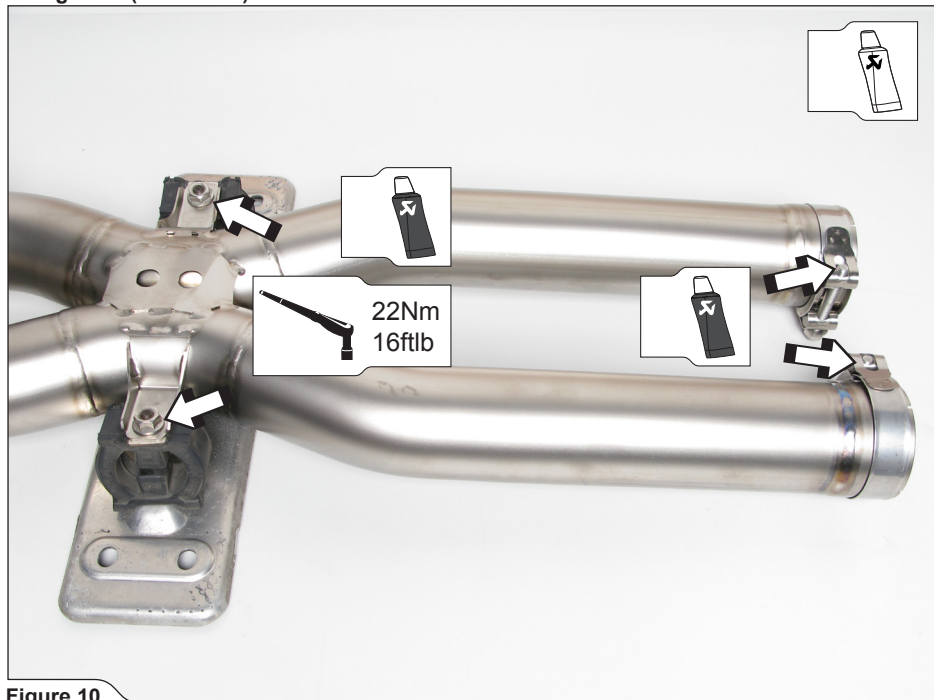

Figure 10
3. **For Evolution:** attach the stock bracket and additional metal clamps to Akrapovič middle pipes (Figure 10).